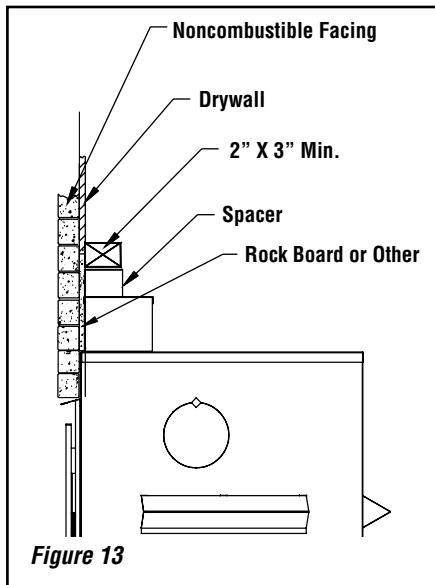

Figure 13
2. Non-combustible materials such as brick, stone or ceramic tile may project in front of and onto the fireplace facing up to the tiling flange (Figure 13).